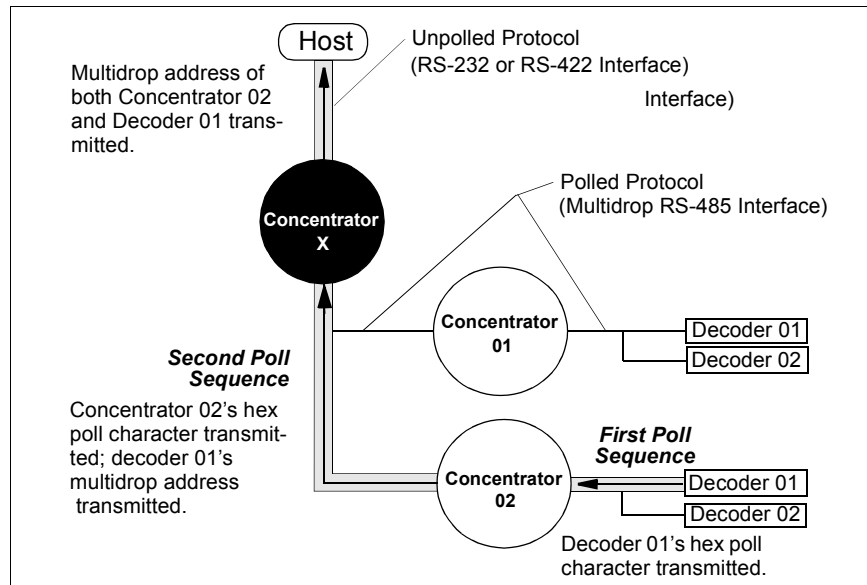
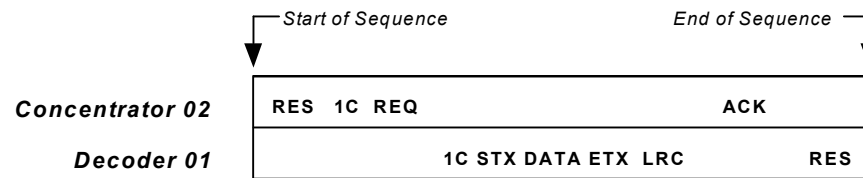
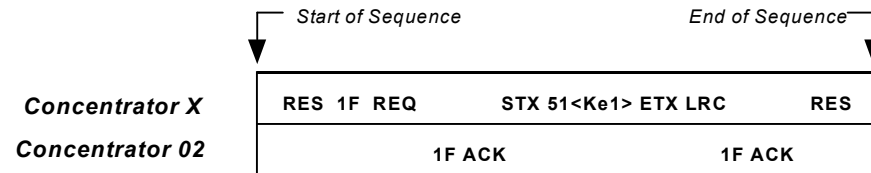
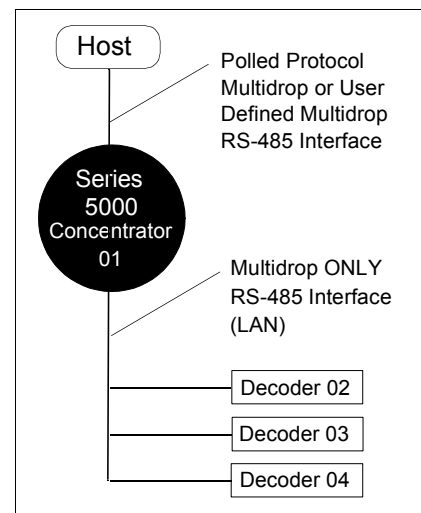

Figure 2-5 Multiple Concentrator Network
Figure 2-6 Concentrator to Decoder Polling Sequence
Figure 2-10 Concentrator to Lower Level Concentrator Select Sequence
Figure 2-11 Special Multidrop Network
**Note:** To allow enough time for data retrieval, LAN Turnaround Timeout for Concentrator X (see figure 2-5) must (approximately) be greater than double LAN Turnaround Timeout for Concentrator 01. For example, if Concentrator 01 is set to the default of 12 ms, try setting Concentrator X to 25 ms (you may need to experiment to determine the best setting). For more information on Turn-around Timeout, see page 3-7.
**First Poll Sequence.** Concentrator 02 in figure 2-5 polls its decoders like a concentrator in a typical, single concentrator network. It receives a hex poll character (1C) and Decoder 01's data, shown in figure 2-6.
When sending a select command (figure 2-5 on page 2-8) to Decoder 01 through Concentrator X and Concentrator 02, for example the Trigger Count request <T>, the host transmits:
**Select Commands to a Lower Level Multidrop Concentrator.** Commands to lower level concentrators in multiple concentrator networks (such as Concentrator 01 or 02 in figure 2-5) include both the concentrator's address and a 51. For example, to send <Ke1> (Postamble Enable) to Concentrator 02, the host transmits 0251<Ke1>CR in the first sequence. Concentrator X strips away the 02, substitutes 1F as the select address, and forwards the remaining command string to Concentrator 02 as shown in figure 2-10.
If the host application's software (or a programmable logic controller (PLC)) can mimic a concentrator, the MS-5000 concentrator itself can be configured in Multidrop (or User Defined Multidrop) and assigned an address. (See figure 2-11.)
**Select Command to a Multidrop Concentrator.** When the host sends a select command to a concentrator that's configured in Multidrop, it transmits the select address (1D hex for multidrop concentrator address 01 as shown in figure 2-11). It also prefaces the command with a 51 just as was done in figure 2-10.